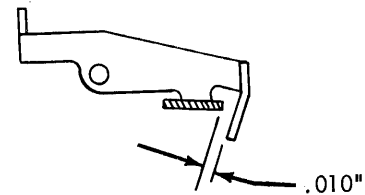

FIGURE 268. Stencil Locking
8. Stencil Lockout (Fig. 268) - With the lift lever in stencil position and the cam follower on the high point of the ribbon feed cam, form the ribbon feed latch for .010" clearance with the lug on the cam follower.